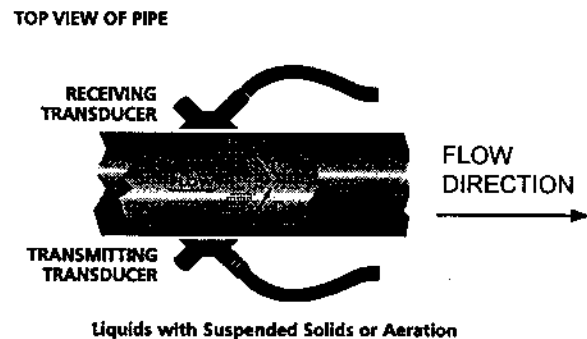

Figure 2 Transducer Cable Direction
- D. Place each transducer under the mounting strap, 180° apart on the pipe. Ensure that the transducer cables are facing the same direction. See Figure 2.